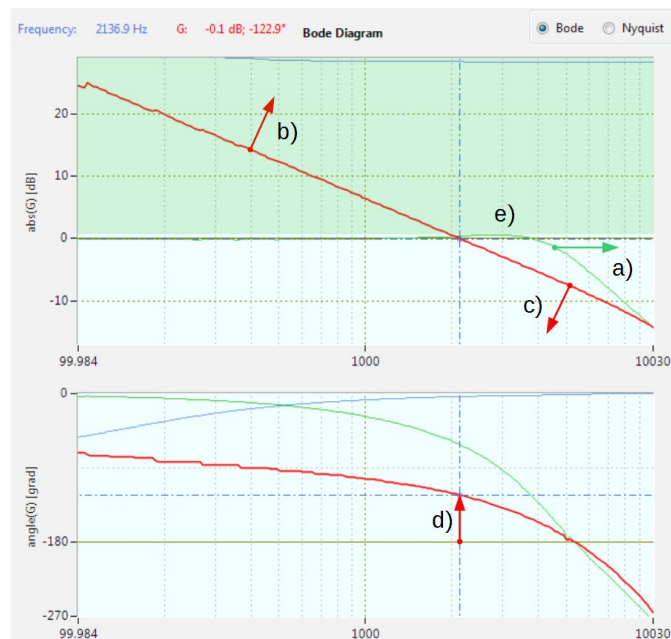
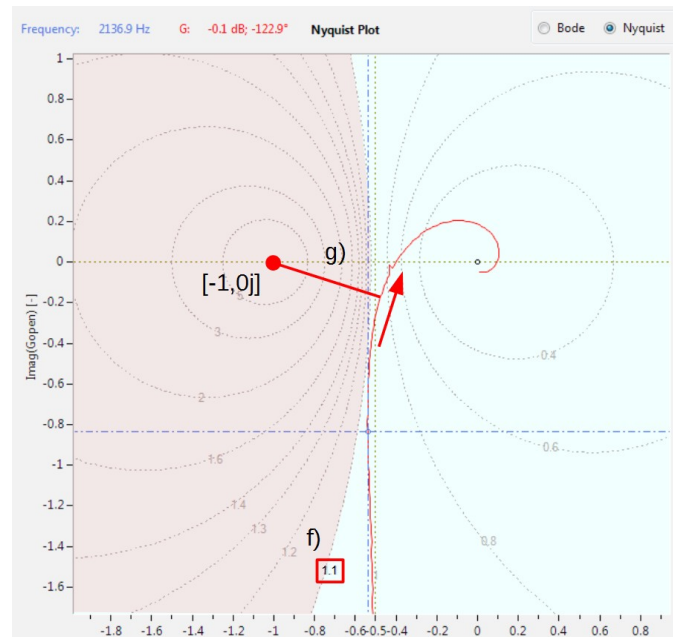

Figure 51: Tuning criteria in Bode view for the current controller.
Figure 52: Tuning criteria in Nyquist view for the current controller.
The goal for the tuning is to get a stable controller with the following characteristics (see also Figure 51 and Figure 52):
Tuning criteria in **Nyquist** plot view (Figure 52):
⁷ The phase-margin is the difference between the phase-angle of a transfer function $G_o(f_{gc})$ at the frequency f_{gc} where the amplitude of $H_o(f_{gc})$ crosses 0dB and -180° . See d) in Figure 51.
2. With the cross-hair search the frequency f_{gc} where $H_o(f_{gc})$ has a phase margin of 60° (Figure 51, marker d)).
1. In the Bode View place the cross hair at the frequency f_{gc} where the angle of the open loop transfer function $H_o(f_{gc})$ (red line) has the desired phase margin e.g. 60° (see Figure 51, marker d)).